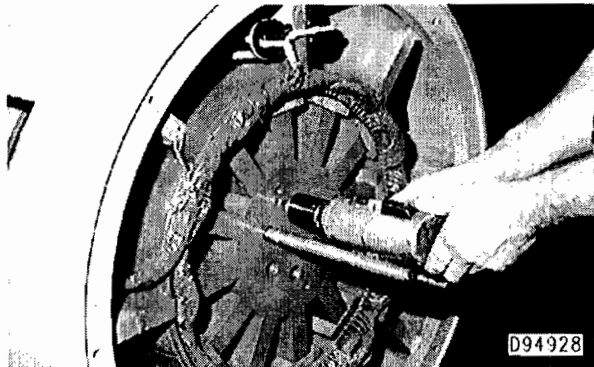

Figure 3
3. Disconnect alternator field leads. Remove the exciter armature and PM retaining bolts. Thread two 5/8 threaded stock through the PM rotor into the shaft as shown in figure 3. Remove the PM rotor. The rotor should be removed by grasping the inside magnets and then pulling quickly and sharply straight back, overcoming the magnetic pull off the PM in a clean area, or seal it in plastic to avoid contamination with metal particles. See figures 3 and 4.